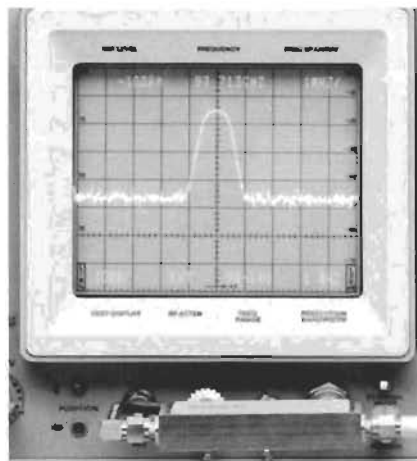

Figure 4. Quadrature hybrid diplexer.
In the waveguide bands, spectrum analyzers often use a quadrature hybrid diplexer, a 4-port 3 dB coupler that divides the input signal into two mutually isolated quadrature phased (90 degree) outputs while maintaining isolation of the fourth port from the input. This prevents LO energy from reaching port (1) and IF energy from reaching port (2). Figure 4 represents this type of diplexer and its connections to the 492 Spectrum Analyzer and external waveguide mixer(s).